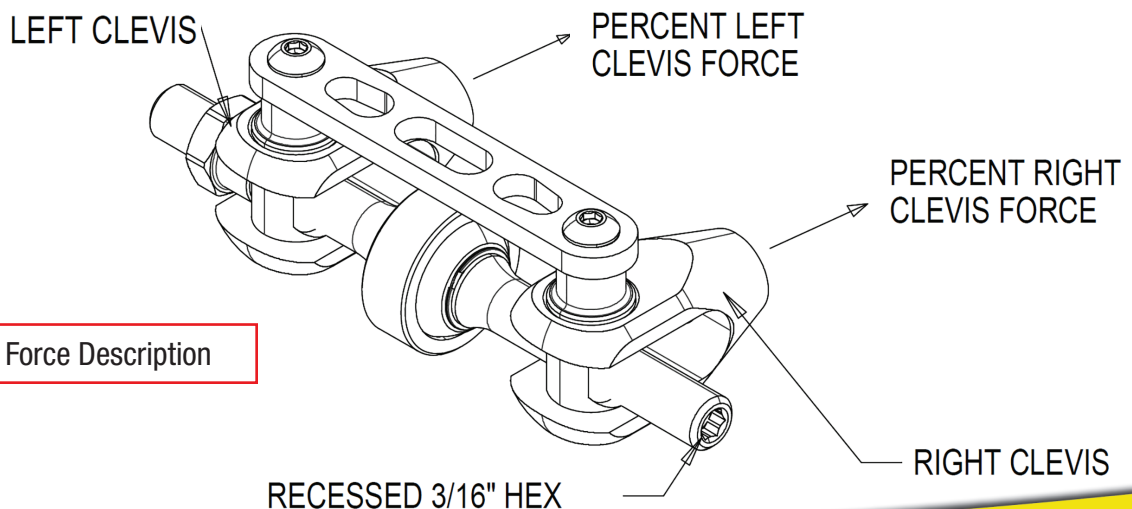

FIGURE 3: Bias Bar Force Description
3. Turn the bias bar by hand or by using the recessed 3/16" hex (Figure 3) in the end of the bias bar to set the desired spherical bearing position.